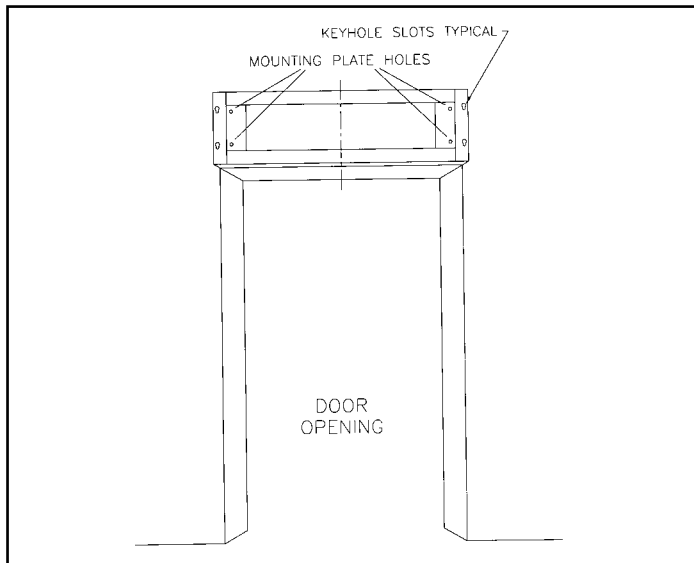

FIGURE 6 - Wall Mounting Plate, Wall Marking
- D. Mark the wall in the centers of the (4) 1/2" round holes provided on the mounting plate. **See Figure 6.** If the holes on the mounting plate are not located where suitable support is available for the unit, drill new holes in the space provided on the mounting plate.